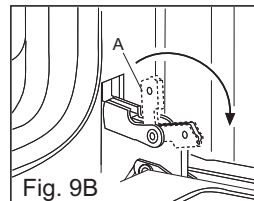

Fig. 9B
- 2 flip the hinge hooks "A" outwards (see fig. 9B).